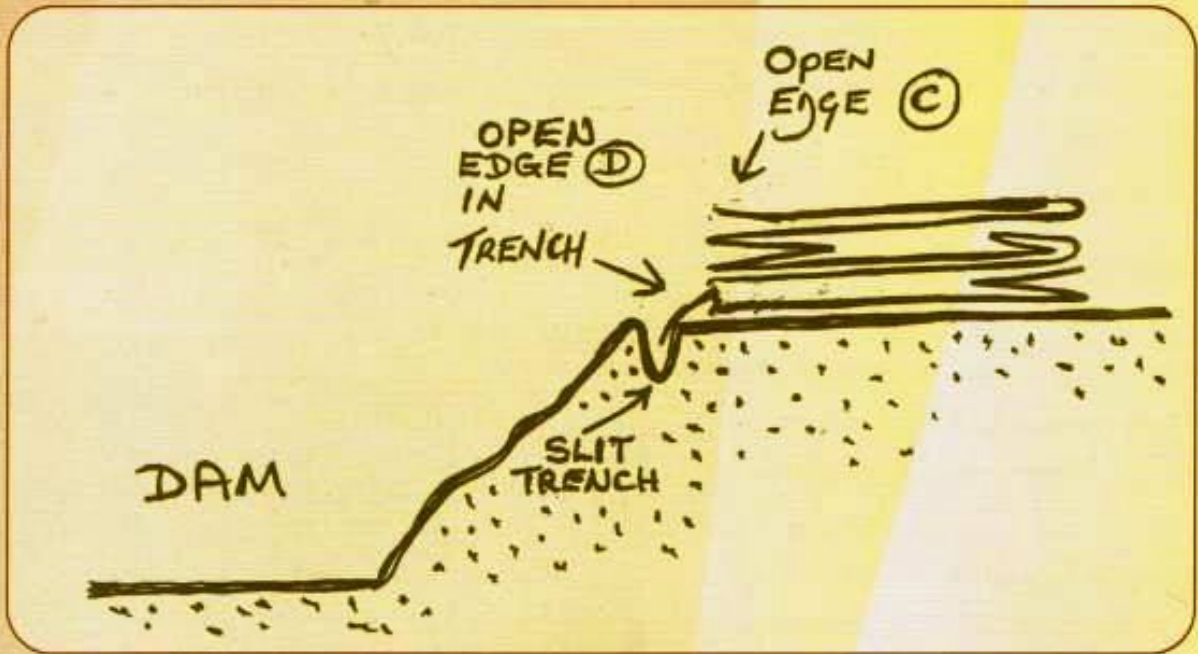

Figure 3 Open edge (D) into trench
With open edge (D) held in the trench, the liner is now ready to be opened out in one smooth continuous movement across the dam, by taking hold of open edge (C) See Figures 3 & 4.